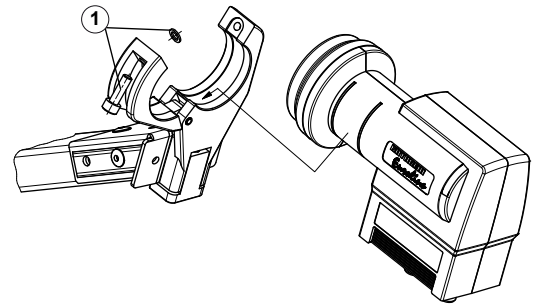

Fig. 1
1. Clamp the feed system between the bottom and the top part of the feed system mounting and tighten it loosely by means of the screw (Fig. 1).